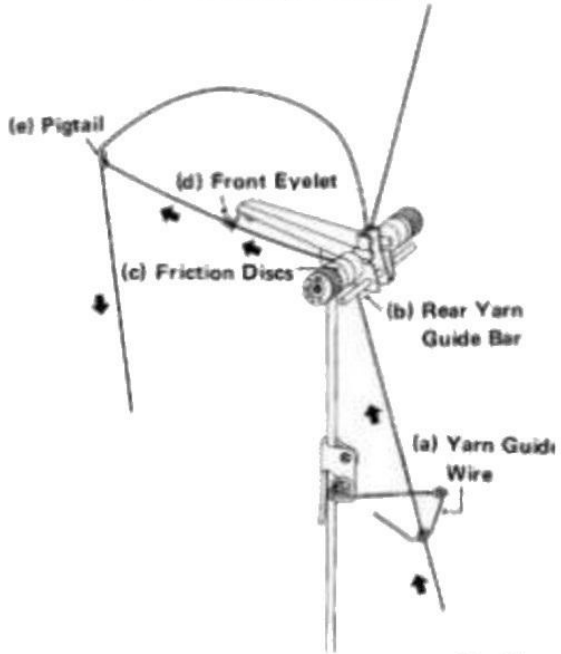

Fig.25
- (a) Pass the wool through one of the eyelets of the yarn guide wire, (Fig.25-a)
- (b) upwards between the rear yarn guide bar and friction discs, (Fig.25-b)
- (c) over and between the friction discs, (Fig.25-c)
- (d) forward through the one of the front eyelets, (Fig.25-d)
- (e) forward again through the pigtail at the end of the spring wire, (Fig.25-e),